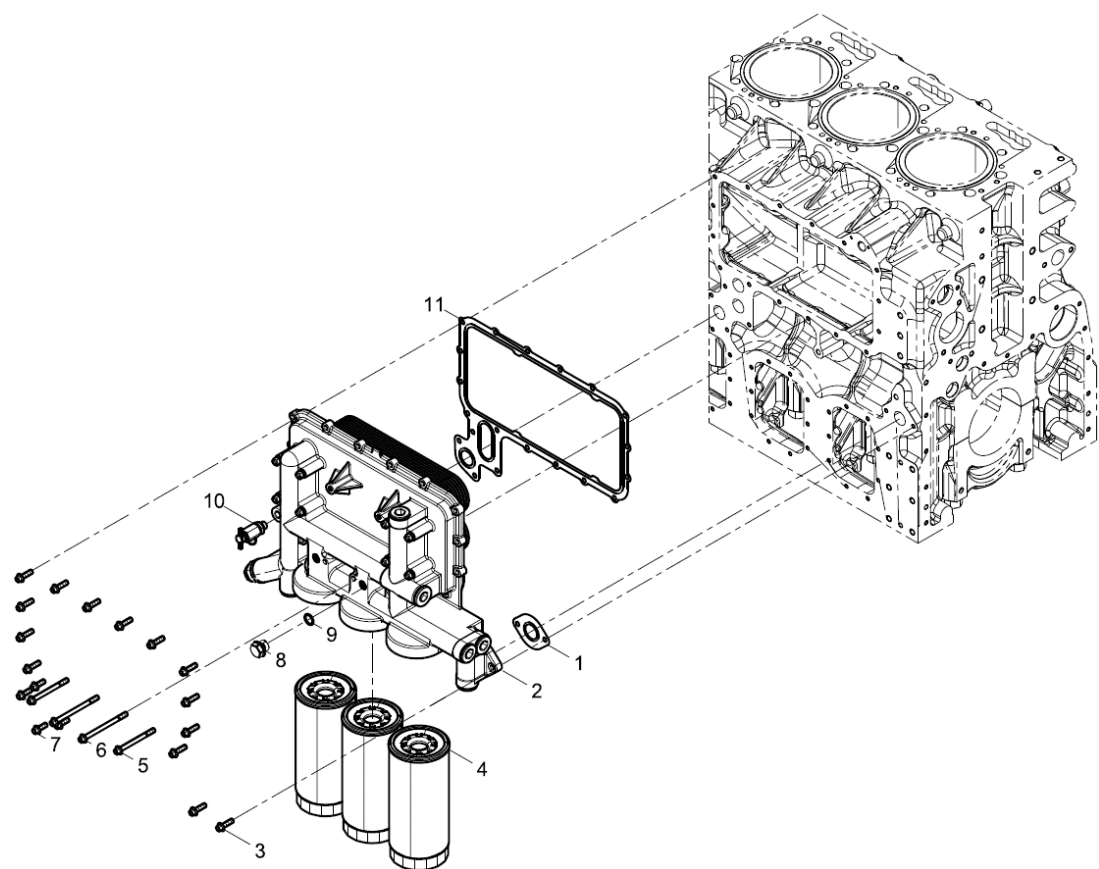

Figure 130. Oil Cooler Assembly
2. Remove the oil filter assembly (Figure 130, Item 4) if necessary.
3. Remove the bolts (Figure 130, Items 5, 6 & 7) and remove the oil cooler assembly (Figure 130, Item 2).
4. Remove the oil cooler gaskets (Figure 130, Item 1 & 11).
2. Place new gaskets (Figure 130, Items 1 & 11) and install the oil cooler assembly (Figure 130, Item 2) onto the cylinder block.
3. Apply Loctite 242 to all bolts (Figure 130, Items 5, 6 & 7).
4. Insert and torque the bolts (Figure 130, Items 5, 6 & 7) to 26 lb-ft.